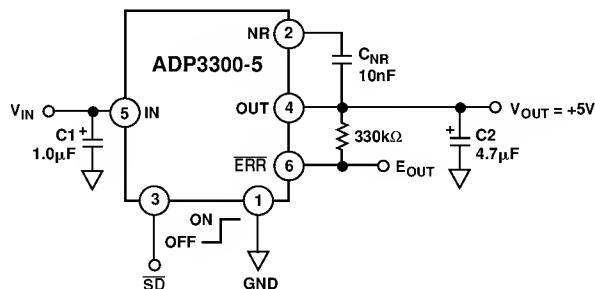

Figure 21. Noise Reduction Circuit
A noise reduction capacitor ( $C_{NR}$ ) can be used to further reduce the noise by 6 dB–10 dB (Figure 21). Low leakage capacitors in the 10 nF–100 nF range provide the best performance. For load current less than 200  $\mu\text{A}$ , a 4.7  $\mu\text{F}$  output capacitor provides the lowest noise and the best overall performance. Since the noise reduction pin (NR) is internally connected to a high impedance node, any connection to this node should be carefully done to avoid noise pickup from external sources. The pad connected to this pin should be as small as possible. Long PC board traces are not recommended.